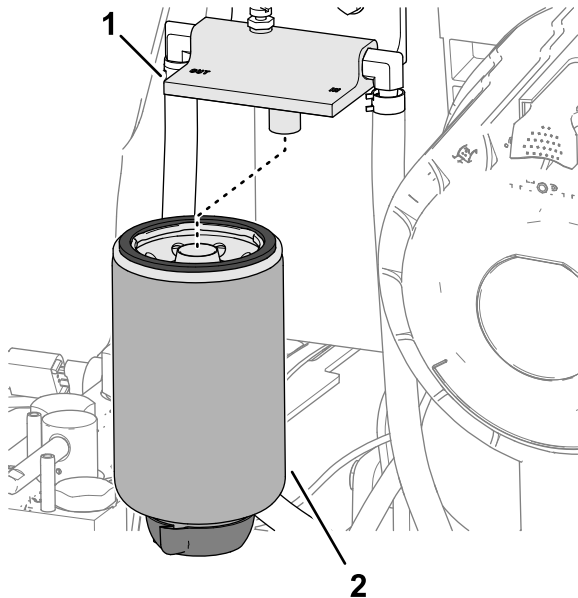

Figure 73
2. Clean the fuel-water separator filter and filter head (Figure 73).